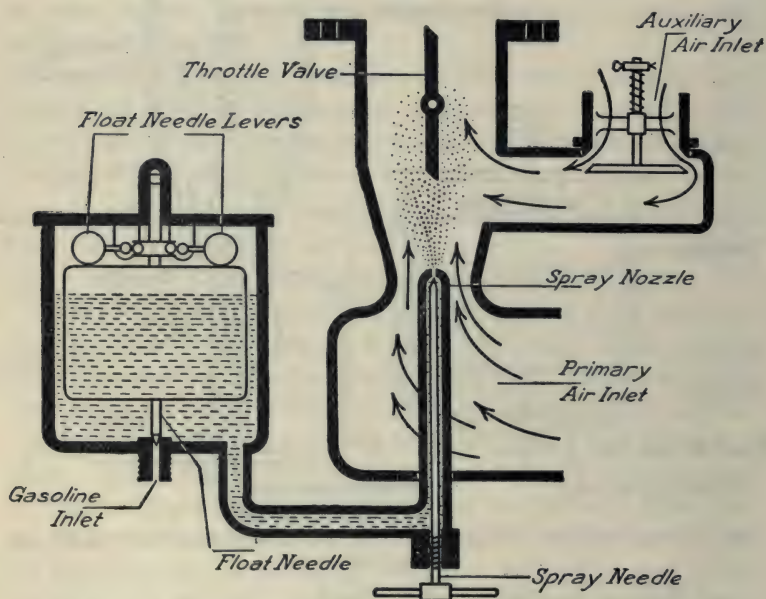

FIG. 91. — Carburetor, showing spray needle and auxiliary air inlet.
10. What is the function of a spray needle? See fig. 91.